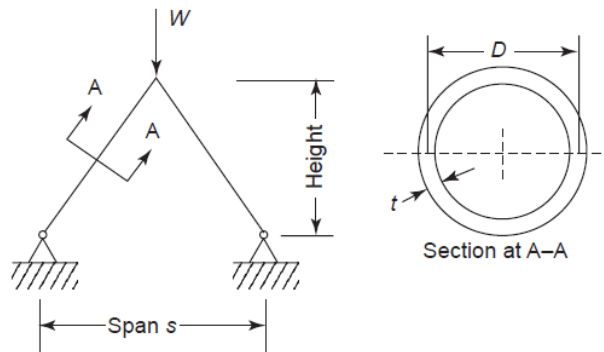

Fig. 1
4. Design of a two-bar truss. Design a symmetric two-bar truss (both members have the same cross section) shown in Fig. 1 to support a load  $W$ . The truss consists of two steel tubes pinned together at one end and supported on the ground at the other. The span of the truss is fixed at  $s$ . Formulate the minimum mass truss design problem using height and the cross-sectional dimensions as design variables. The design should satisfy the following constraints: